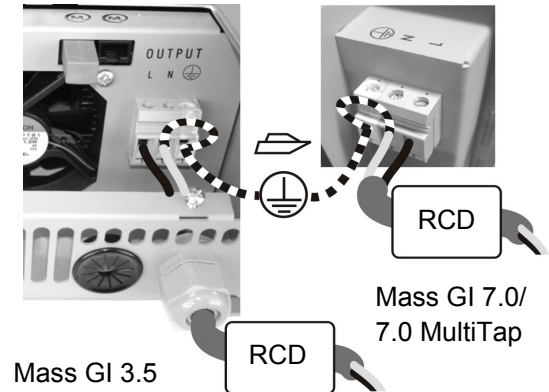

Figure 16
- Connect both the earth (PE/GND) and the neutral (N) of the AC output of the Mass GI to the grounding point, fig. 16. This grounding point must be connected to the central ground connection of the ship, which is connected to the hull of the ship.
1. Connect the AC load to the AC output (fig.16).
2. Connect the AC load to the AC output on the units (figure 16).